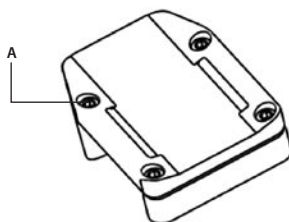

FIGURE 4-6. REMOTE CONTROL UNIT. BATTERY INSTALLATION
1. Using a screwdriver, unscrew the four screws (A, Figure 4-6) that secure the cover to the bottom of the unit. Remove the cover.
3. Replace the cover and retighten the screws (A).